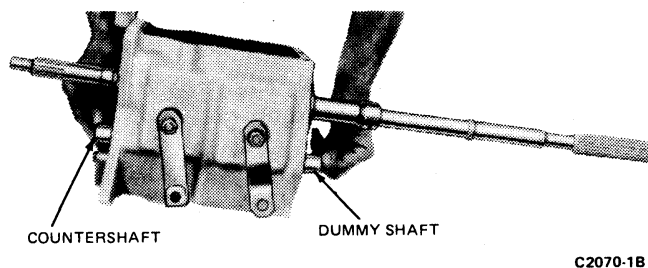

FIG. 14 Removing Countershaft
7. Hold the countershaft gear with a hook and, with tool shown in Fig. 14, push the countershaft out of the rear of the case.